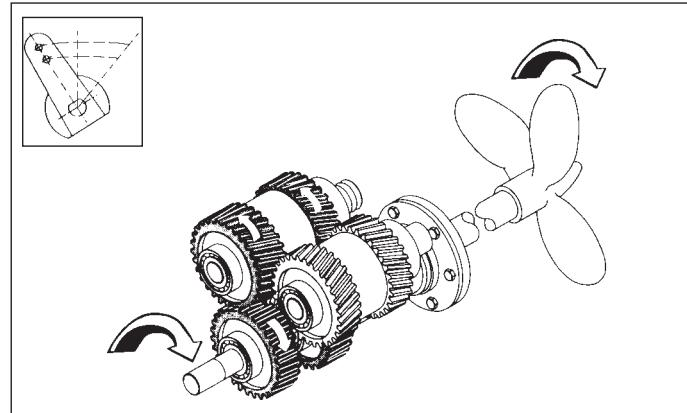

Fig. 1
The gearbox transmits, interrupts or reverses the motion to the propeller shaft and adjusts output speed and torque. There are three types of operation: **enginewise** (Fig. 1) or **counterenginewise** (2) depending on whether the output shaft rotates in the same direction as the input shaft or in the opposite direction; **neutral** (3) when the output shaft does not turn.
The selector valve lever (Pos. 8 Fig. 11-12) is positioned as shown in figure (Fig. 1).